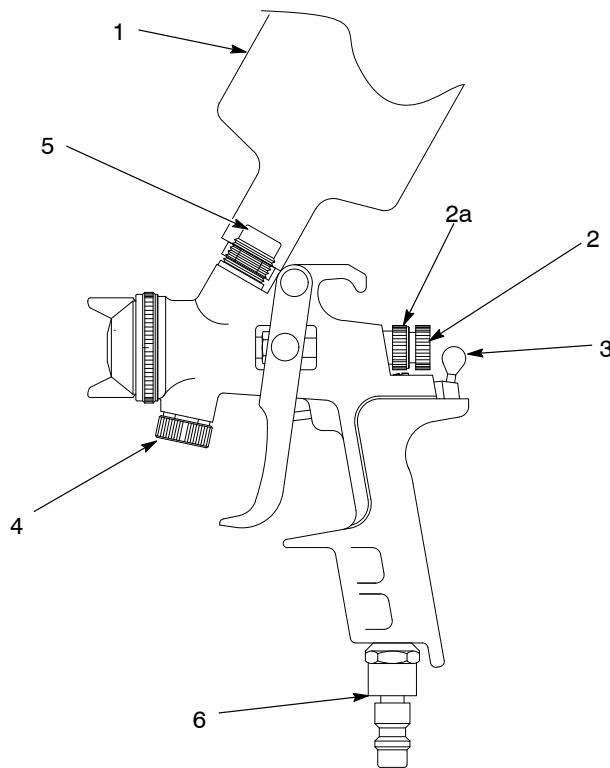

Figure 1 Trilogy Air Spray and LVLP Gun Components
See Figure 1.
See Figure 1. Use the atomizing air regulator (3) to adjust atomizing air flow.
- Rotate the regulator (3) to the right (clockwise) to increase atomizing air.
See Figure 1. The material flow regulator (2) controls the material flow rate. Loosen the lock nut (2a) before turning the knob.
See Figure 1. The fan pattern regulator (4) adjusts the shape of the spray pattern from flat to round.